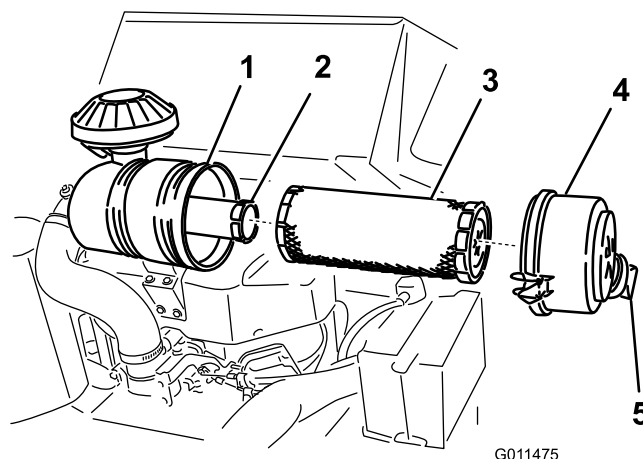

Figure 30
3. Release the latches on the air cleaner and pull the air cleaner cover off of the air cleaner body (Figure 30).
1. Gently slide the primary filter out of the air cleaner body (Figure 30). Avoid knocking the filter into the side of the body.
4. If you are replacing the safety filter, carefully slide the new filter into the filter body (Figure 30).
5. Carefully slide the primary filter over the safety filter (Figure 30). Ensure that it is fully seated by pushing on the outer rim of the filter while installing it.
6. Install the air cleaner cover with the dust cap oriented as shown in Figure 30 and secure the latches.